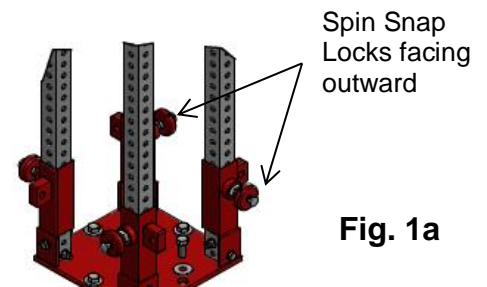
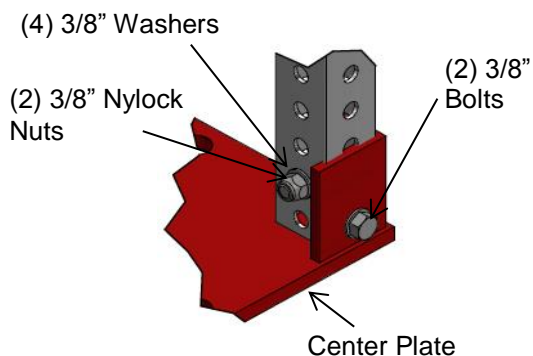

Fig. 1a
Fig. 2
2. Position the **Center Plate** on the floor and mount (4) **Adjusting Tubes** on the **Center Plate** with the **Spin Snap Locks** facing outward (see Fig. 1a & 2). Assemble using the supplied hardware as shown below (see Fig. 2).
3. Now assemble the **Top Center Plate** (see Fig. 2 & 3a).